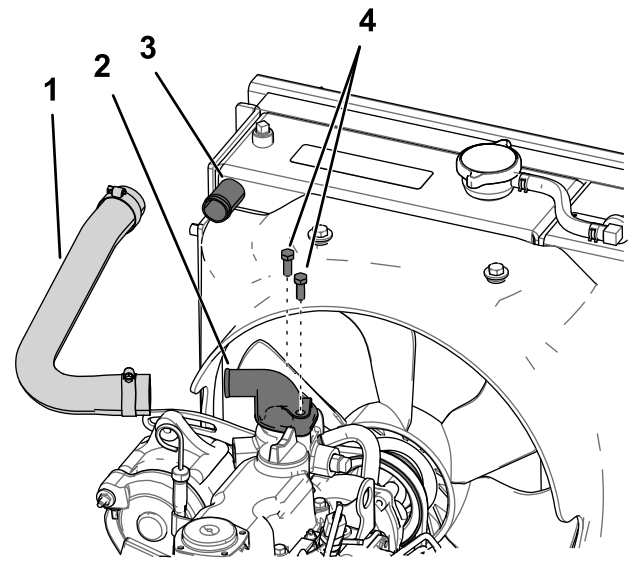

Figure 8
3. Align the gasket and outlet with the mounting holes and port on top of the engine, with the angled end of the outlet facing the right side of the machine (Figure 8).
6. Install the upper end of the radiator hose to the straight-end outlet on the radiator and tighten the hose clamp (Figure 8).